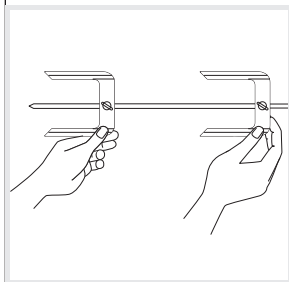

FIGURE 3
8. Open screws on adjustable fork then slide onto spit rod with pointed ends facing open end of spit rod. (*Figure 3*)